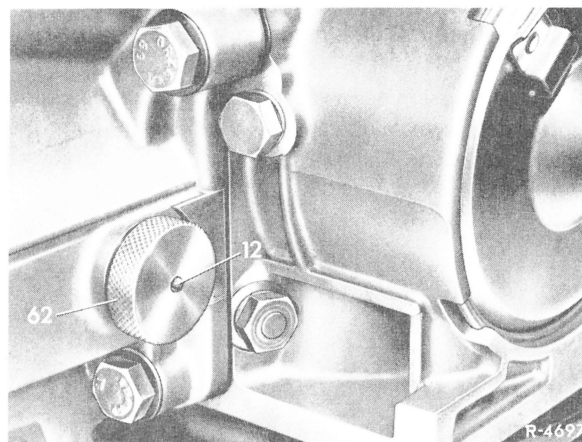

Fig. 45
**72** Screw measuring device (62) into housing and tighten slightly. Insert thrust pin (12) and push down against stop (Fig. 45). Thrust pin should be flush with face of measuring device. For this reason, thrust pins are available in three different lengths, which are color coded.